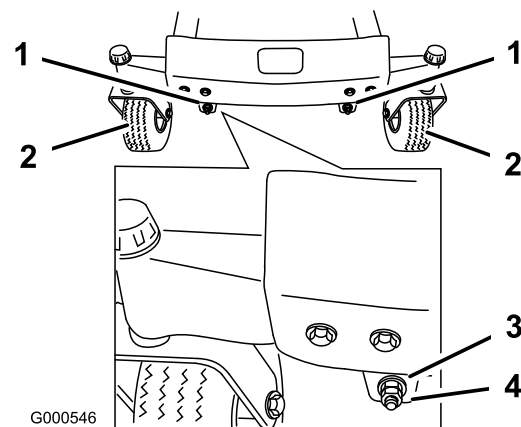
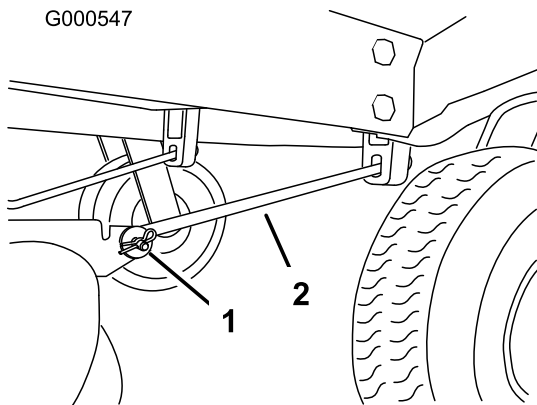

Figure 47
Figure 48
11. To adjust the front-to-rear blade slope, remove the locknuts and then rotate the adjustment nuts in the front of the mower (Figure 47).
13. After adjusting both adjustment nuts evenly, check the front-to-rear slope again. Continue adjusting the nuts until the front blade tip is 1/16-5/16 inch (1.6-7.9 mm) lower than the rear blade tip (Figure 47).
Note: After adjusting the adjustment nuts, make sure there is no slack in either support rod (Figure 48). Tighten either one to remove the slack (Figure 47).
4. Remove the hairpin cotter and clevis pin from the front support rod on each side of the mower (Figure 48).
7. Attach the front support rods to the machine with the clevis pins and hairpin cotters (Figure 48).